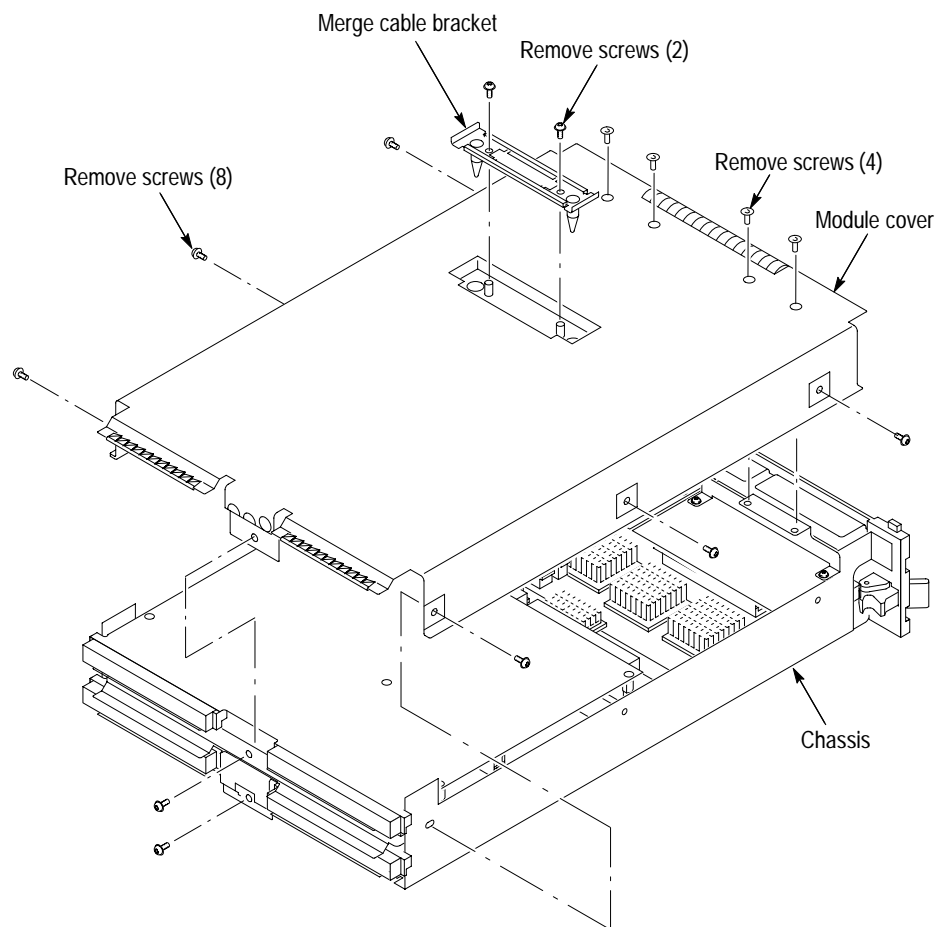

Figure 16: Removing the cover
4. Use the screwdriver with the T-10 Torx tip and remove the eight screws from the cover (Six screws on the cover, and two screws on the rear panel, see Figure 16).
3. Use the screwdriver with the T-10 Torx tip to remove the screws from the side cover and rear cover (see Figure 16 on page 34).